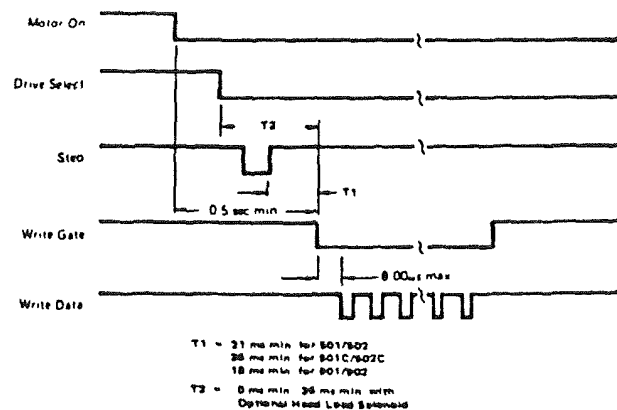

Figure 3-8: Write Initiate Timing
When true, this input line permits writing of data. When inactive, it permits transmitting data to the controller. Allow a minimum of 1 ms after dropping WRITE GATE before expecting valid READ DATA (see figures 3-8 and 3-10).
The frequency of the WRITE DATA is dependent upon the encoding scheme used, the density option exercised, and the data pattern to be written. The write oscillator frequency stability should be held to 0.1%. The data pulse width should be a minimum of 0.2 μ s and a maximum of 3.5 μ s wide. WRITE DATA is effective when WRITE GATE is true. It is recommended that the leading edge of the first WRITE DATA pulse occur no sooner than 4 μ s and no later than 8 μ s after the leading edge of the WRITE GATE true signal. The WRITE GATE false signal should occur no sooner than 4 μ s and no later than 8 μ s after the last data pulse. (see figures 3-8 and 3-9)
- C. Head must be settled subsequent to the STEP command (see figure 3-8).
The preceding conditions may be overlapped. It is recommended that the first WRITE DATA command be within 4 to 8 microseconds after WRITE GATE goes true, and the last WRITE DATA command be within 4 to 8 microseconds before WRITE GATE goes false (see figure 3-8).